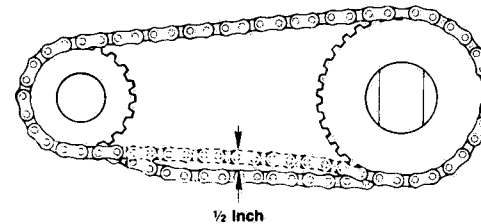

**Figure 4-9. UNDERSIDE OF ICE-FLAKER DISPENSING SWITCHES.**
### Removing Continuous Dispensing Control (Fig. 4-9 & 5-1)
2. Remove screws supporting backsplash (43) and put screws and backplash aside.
4. Remove fishpaper insulation from around ice-flaker dispensing switches (11).
5. Locate link on underside of left ice-flaker dispensing switch (Fig. 4-9).